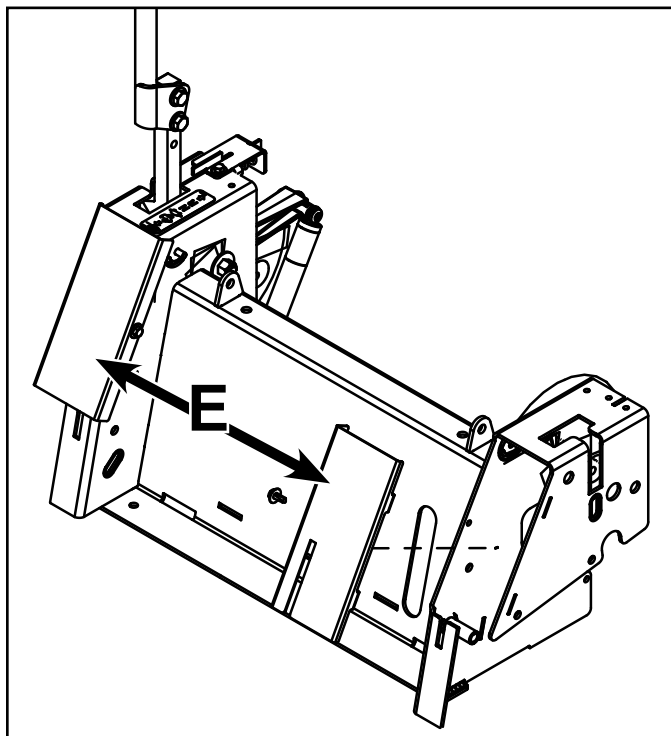

Fig. 020
7. Remove the (2) control covers (E) (Fig. 020).